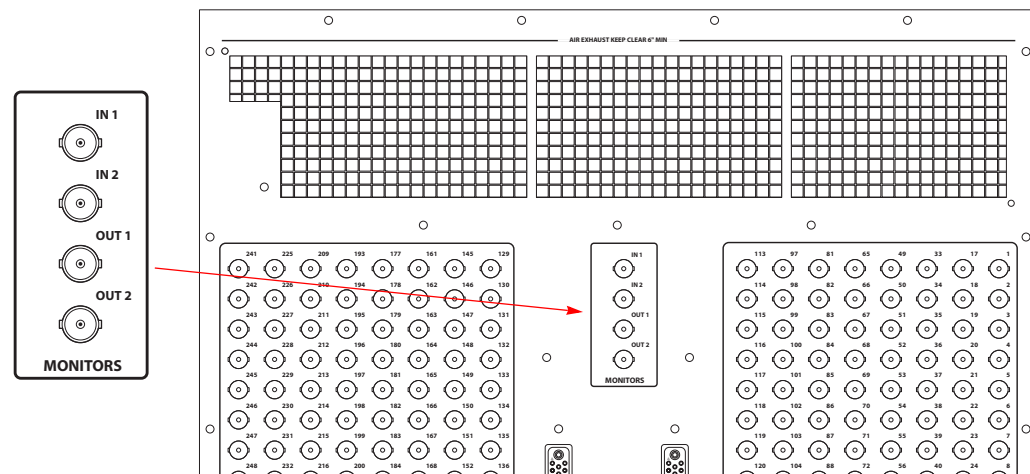

Figure 3-14. Monitor Connections (Rear View)
- 1 Locate the monitor connections on the rear of the router, as shown in Figure 3-14.
- 1 Locate the monitor connections on the rear of the router, as shown in Figure 3-14 on page 44.